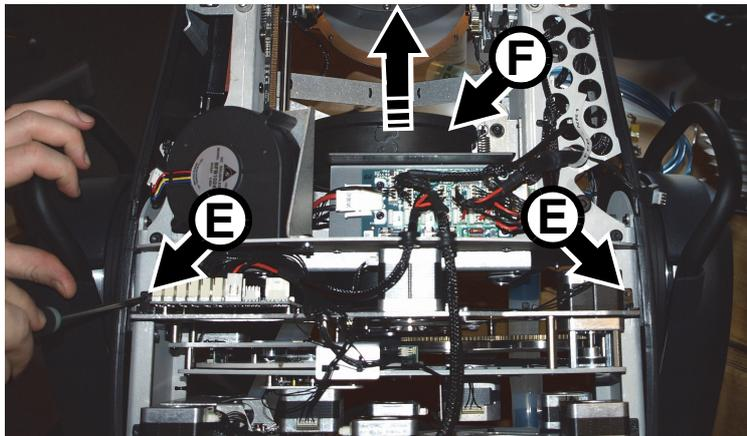

Figure 24: Effects module retaining screws and focus car
- See Figure 24. Remove the two Torx 20 screws **E** that hold the effects module in the head. Slide the zoom/focus car **F** towards the front of the head and remove the effects module.